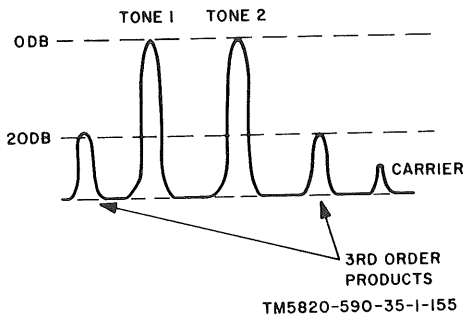

Figure 5-7. Intermodulation distortion display.
(1) Set the power supply to 12 volts.
(2) Set the variable attenuator to 10 db.
(3) On the radio set, set the band-switches to 17.999 mc.
(4) Repeat the procedures in *c*(3) through (8) above.
(5) Tune the AN/GRM-33A to the output frequency of the radio set, and check to see that the difference between the peak amplitudes of the 1,500- and 2,100-cps sidebands does not exceed 4 db.
(6) Refer to figure 5-7, and note the third order intermodulation products. Compare this illustration with the display on the AN/GRM-33A.
(7) The amplitudes of the third order intermodulation products must be at least 20 db below the peaks of the first order sidebands.
(8) Disconnect the equipment.